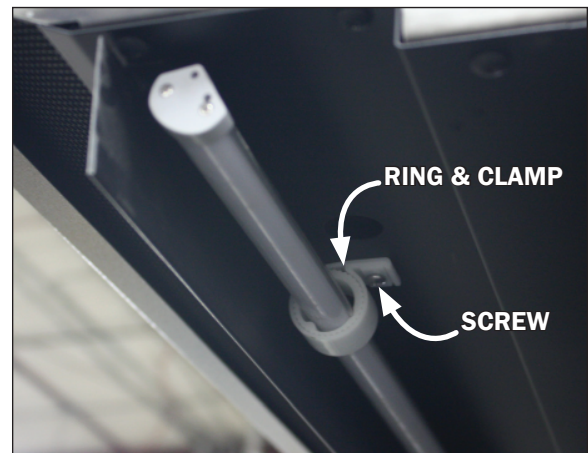

Fig. 3 LED light & ring/clamp
2. Remove the screws from the light clamps (Fig. 3) while keeping ahold of the light. Once the screws are removed the light rod will come away from the case with the clamps still holding to the light.